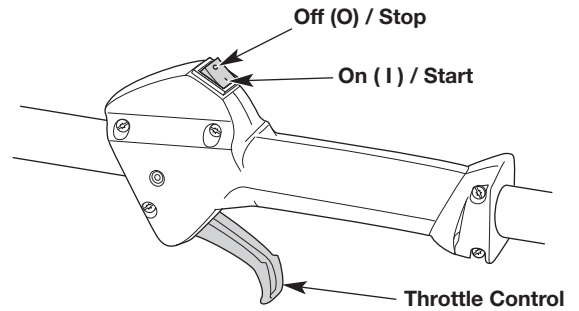
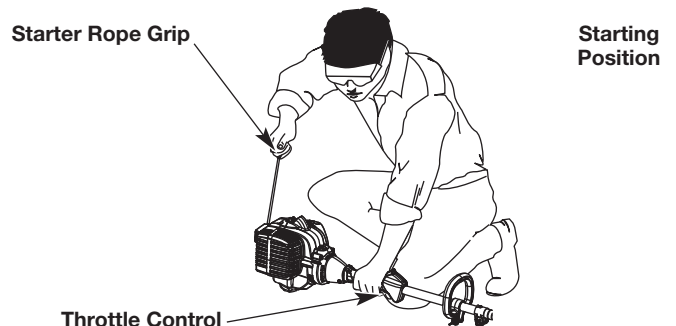

Fig. 8
Fig. 11
WARNING: Avoid accidentally starting the unit. To avoid serious injury, the operator and the unit must be in a stable position when pulling the starter rope (Fig. 11).
NOTE: There is no need to turn the unit on. The On/Off switch is in the ON (I) position at all times (Fig. 8).
5. Crouch in the starting position (Fig. 11).
6. Squeeze the throttle control (Fig. 8) and pull the starter rope with a controlled and steady motion **5 times** (Fig. 11).
2. Press and hold the On/Off switch in the OFF (O) position until the engine comes to a complete stop (Fig. 8).
7. Squeeze and hold the throttle control (Fig. 8). Run the electric start accessory for 2 seconds.